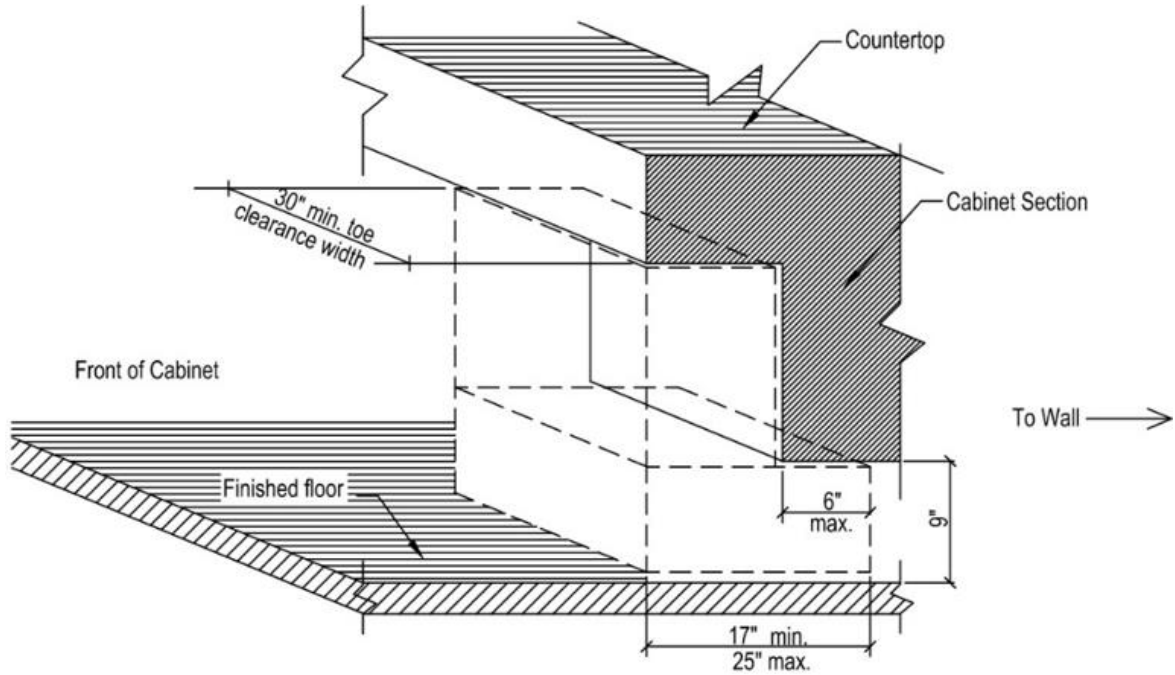

Figure 1: Toe Clearance
- E. The **clear floor space for ranges or cook-tops** shall be positioned for parallel or forward approach. Toe and knee clearance shall be provided per Figures 1 and 2 when clear floor space is positioned for forward approach. (ICC 306)